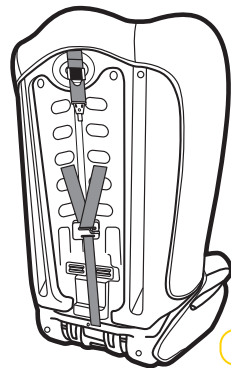

Figure 1
**Step 1:** From the rear of the restraint, remove each shoulder harness through the gates in the "G" connecting plate (see Figures 1, 2, 3 & 4).